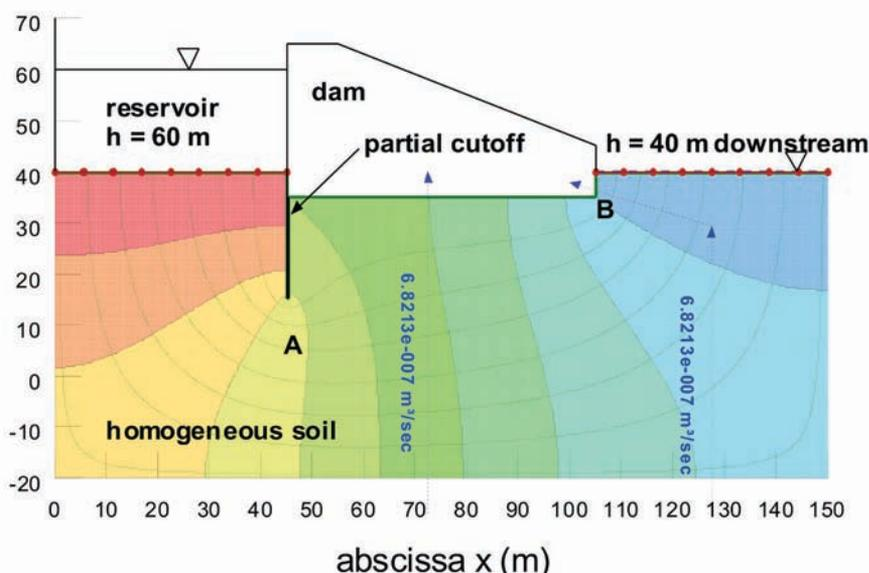
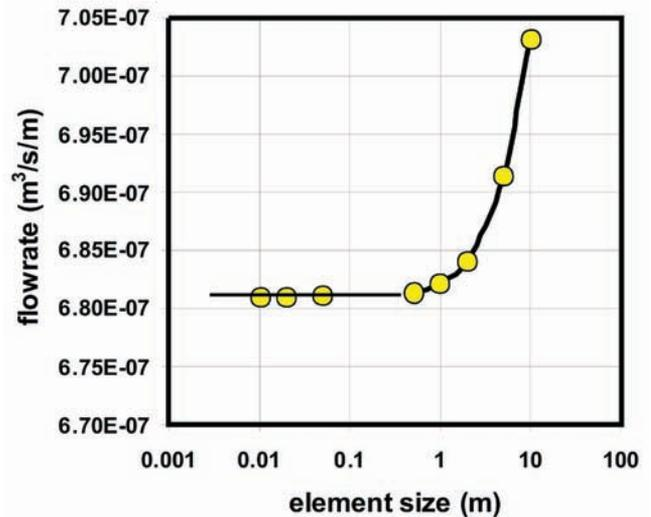

Figure 1. Partial cut-off wall: flownet in the dam foundation.
Figure 3. Partial cut-off wall: Convergence of numerical value of the leakage flowrate.
The problem geometry appears in Figure 1, with the flow net for one numerical grid. Output data relevant for this engineering problem include (1) the leakage rate through the dam foundation Q ($\text{m}^3/\text{m}/\text{s}$), (2) the risk of soil internal erosion at the toe of the cut-off wall, and thus the maximum value of the hydraulic gradient here, and (3) the maximum exit gradient
Now examine two convergence issues. First, the leakage rate Q is expressed in m^3/s per linear meter of dam perpendicular to the vertical cross-section of Figure 1. Its convergence is easily achieved as shown in Figure 3, as soon as the uniform element size is about 1 m. Even with a grid of 10 m, the error on the leakage rate is only 3%. This insensitivity to grid size explains why it was easy, many years ago, to find the right leakage rate using hand-drawn flow nets.